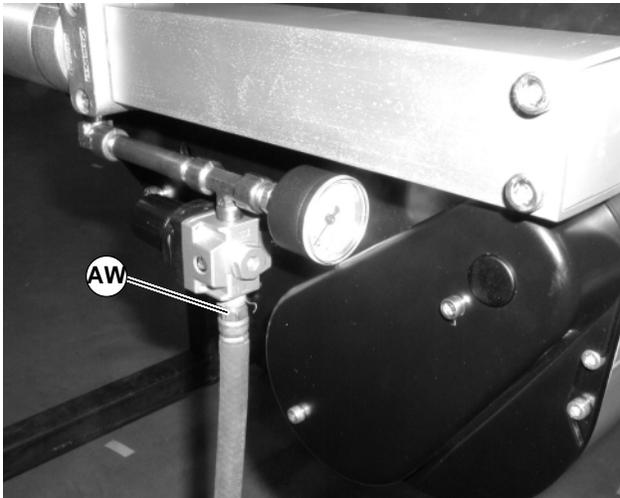

Figure 102
1. Remove air supply (AW of Figure 102) from center drive module.